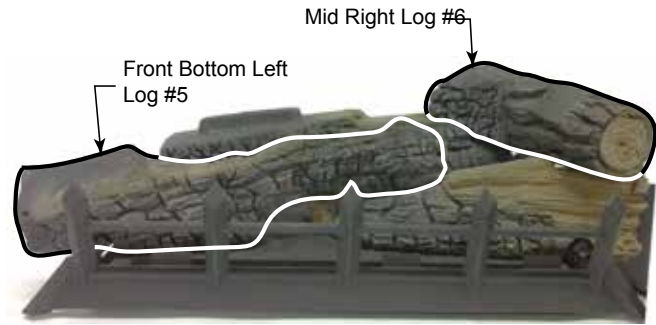

Figure 46
5. Place front bottom left log (#5) on left pin located on burner and left grate bar. The right side of the log should rest on log #4. *Figure 46*
6. Place mid right log (#6) on bottom rear log (#1) and front bottom right log (#4) by placing notch on bottom of log on locating block on log #1. Place front of log in notch of log #4. *Figure 46*